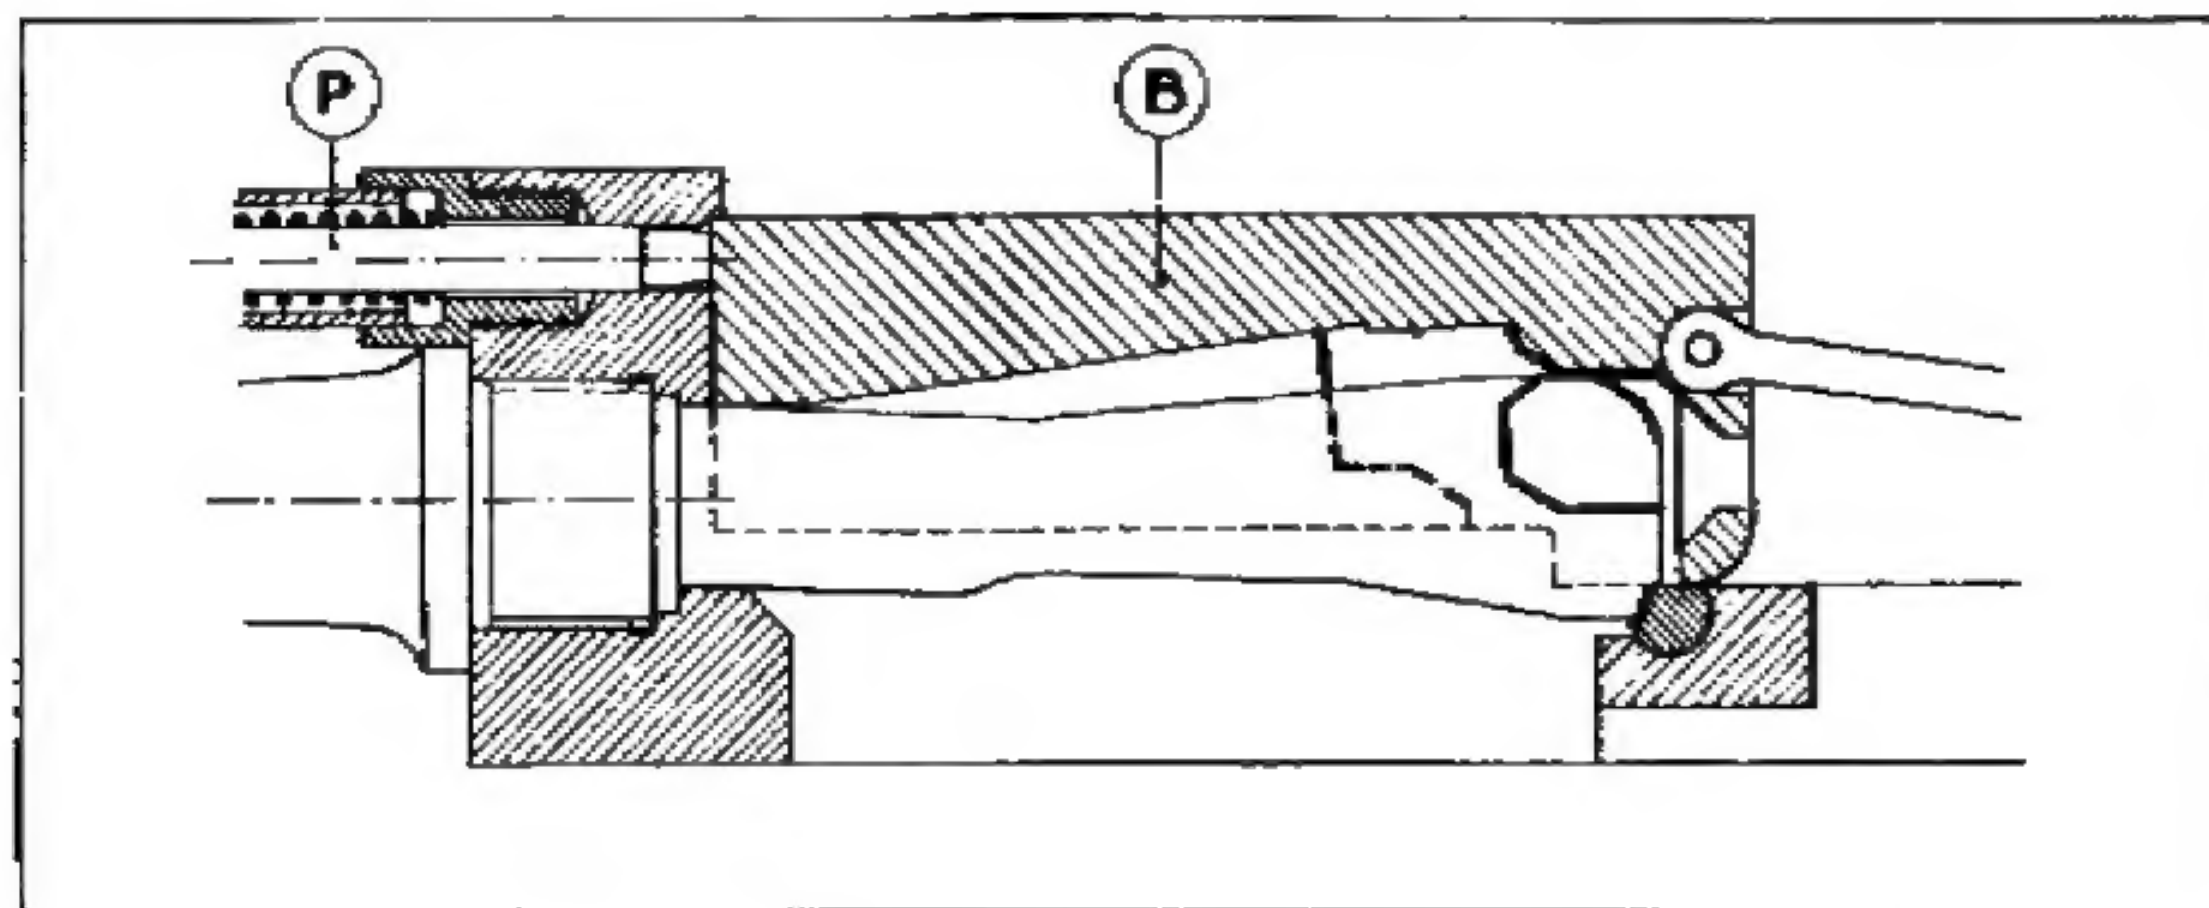

Fig. 5
- As the piston (P) moves backwards, it contacts the slide (B) (fig. 5), thrusting it to the rear.